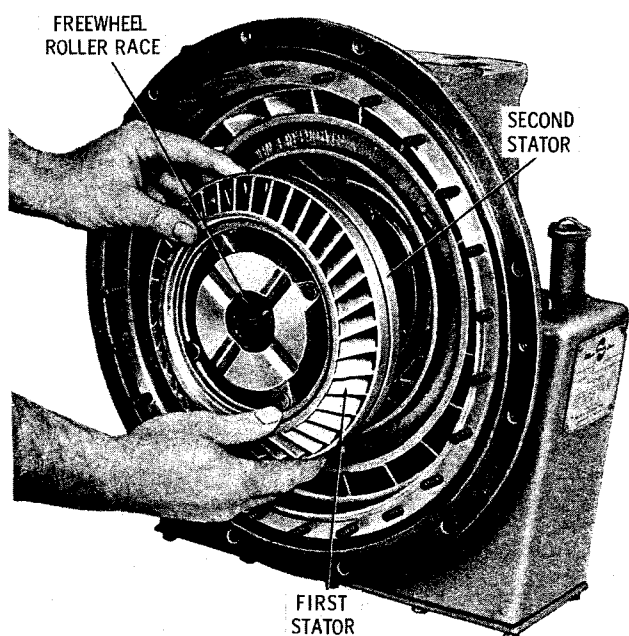

Fig. 7-7. Installing first-and-second stator assembly (TC 300)
(3) Install freewheel roller race spacer 18 and snapping 17.
(4) Install, as a unit, the first-stator assembly, the freewheel roller race and the second-stator assembly, as rebuilt in paragraph 6-7a and b (fig. 7-7). Be sure stator washer 14 (A, foldout 5) is in its proper location between the first and second stators prior to installation.